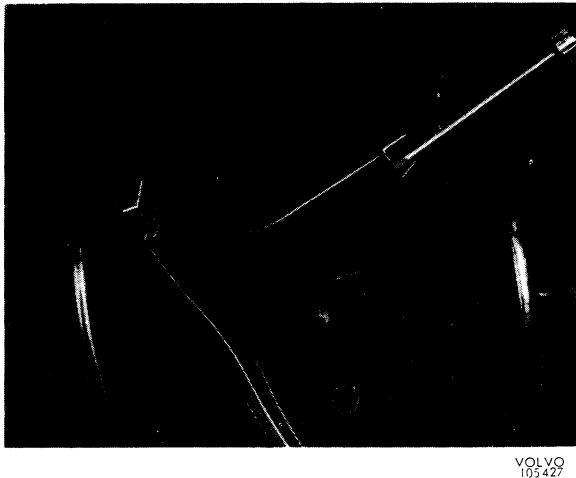

Fig. 6-32. Removing crash guard
1. Carefully lever loose the padding protection, see Fig. 6-32.